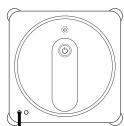

Figure1
1. Before using this product to wipe the glass, make sure again that the safety lock is tied to the bracket that will not move. Such as table legs, bed legs, sofa legs, stairs, etc., and lock the safety locks to avoid danger. Refer to Figure 1.